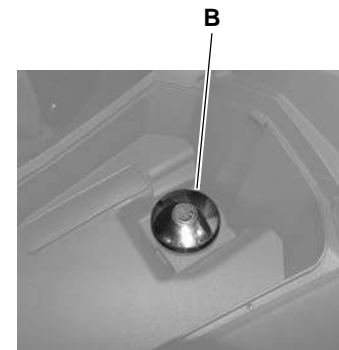

Fig. 8
- Insert the ignition key, remove the cap (B - Fig. 8) and refuel the tank.